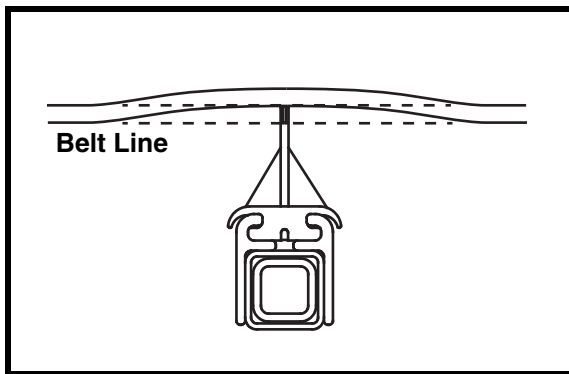

Figure 7a. Cleaner Changing Belt Line
6. Make sure cleaner is not changing belt line (Figure 7a). If it is, install belt support ahead of blade-to-belt contact point (Figure 7b).